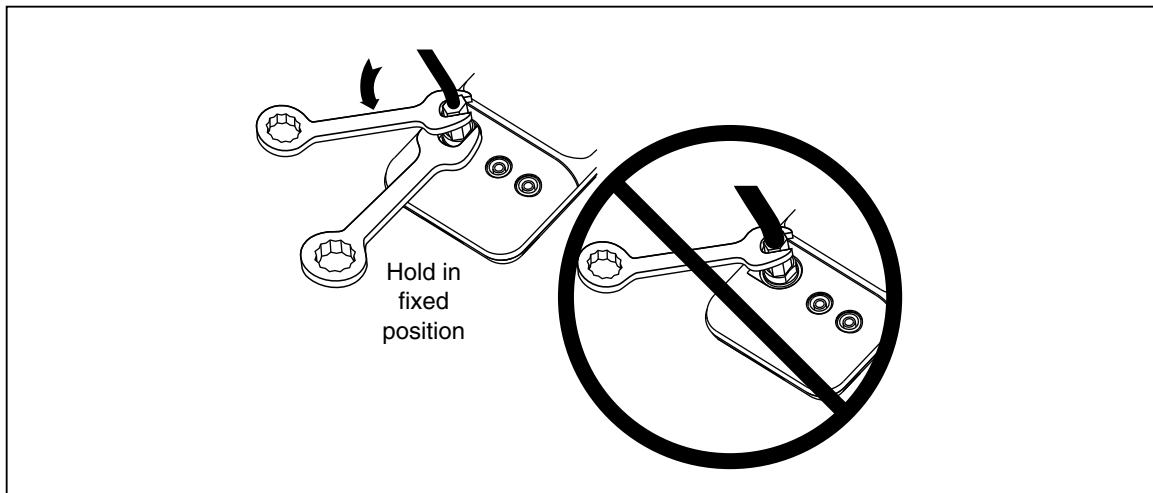

Figure 1. Proper Use of Tools (717, 718, and 718Ex Models)
- Models, 717, 718, and 719 only: To avoid mechanically damaging the calibrator, do not apply torque between the pressure fitting and the calibrator case. See Figure 1 for the proper use of tools.